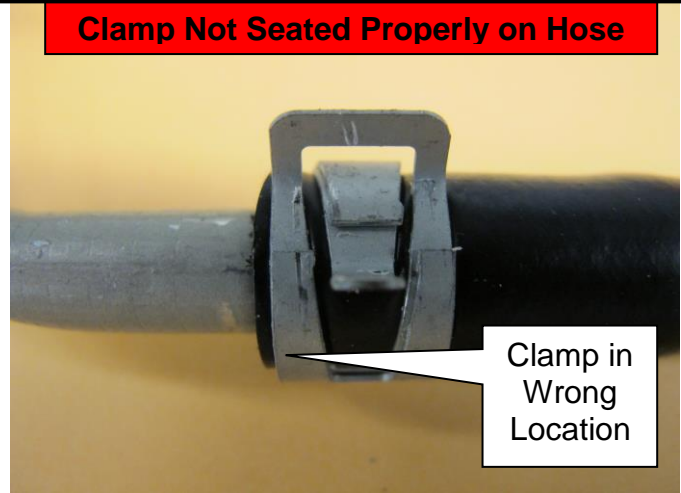

Figure 7
- Clamp not seated properly on hose (Too close to the end of the hose) (Figure 7).